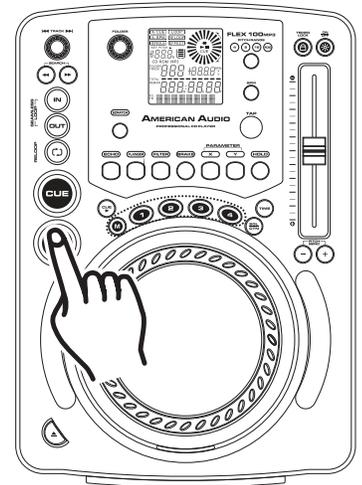

Figure 10
3. STARTING PLAYBACK - *Figure 10*
5. STOPPING PLAYBACK - *Figures 10 & 11*
- 1) Press the *PLAY/PAUSE BUTTON (18)* during playback. This will pause playback at the exact same point the *PLAY/PAUSE BUTTON (18)* was pressed.
- 2) Press the *CUE BUTTON (20)* during playback. This will pause playback and return the track to the last set cue point.
6. PAUSING - *Figure 10*